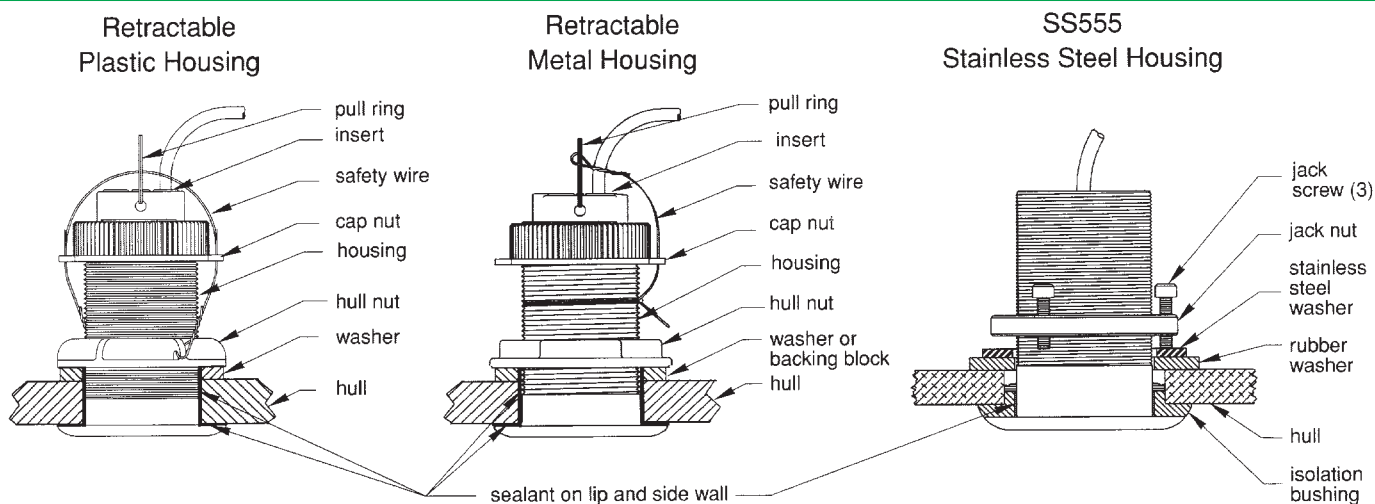

Figure 3. Flush and low profile transducer bedding and installation
1. Remove the hull nut and any cap nut, washer, and/or transducer insert from the outer housing (see Figure 3).
3. Slide on the washer or backing block used to distribute the force from the hull nut and create a flat surface to tighten against (see Figure 3). **Never** use a wood backing block with a plastic housing since swelling of the wood may overstress the plastic causing it to fracture.